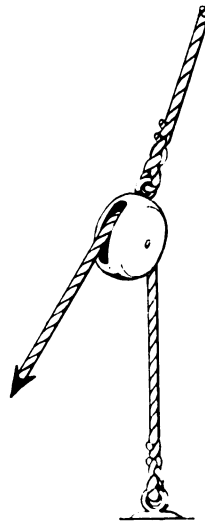

Fig. 178.—Runner
(2) *The Runner* (Fig. 178) consists of a rope rove through a single moving block. As there are two parts of the fall in the moving block, the M.A. is 2.